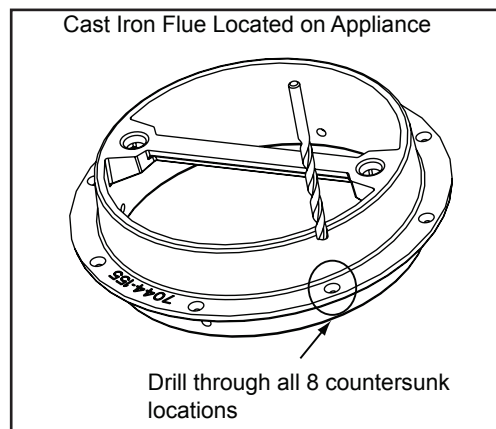

Figure 17.2
1. Remove the cast iron flue collar from the appliance and flip it upside down. Using the larger #7 drill bit supplied, drill through all 8 countersunk locations. **Figure 17.2**.